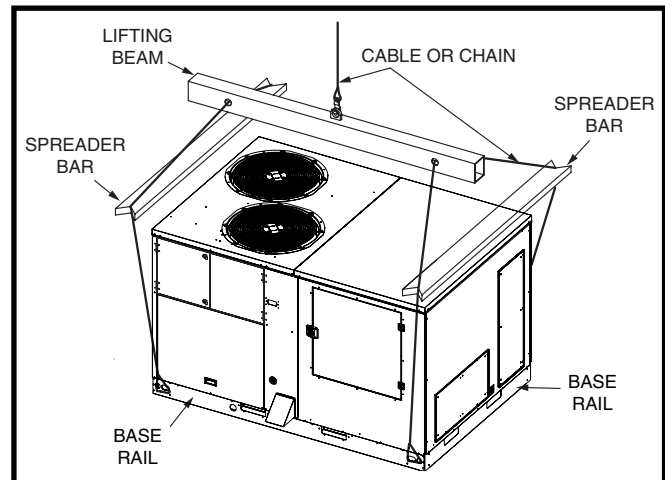

Figure 3. Rigging and Hoisting
- **Spreader bars are required to protect the unit and ensure even loading. See Figure 3.**